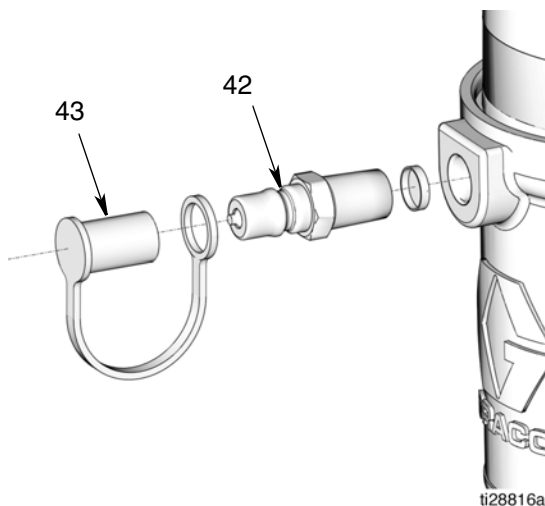

FIG. 10
5. Remove fill cap (43). Then use a wrench to loosen and slowly remove the fill stud (42). (FIG. 10).